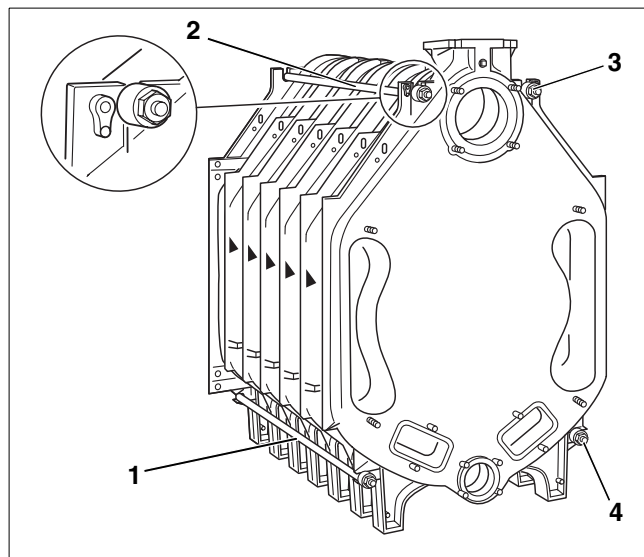

Fig. 19 Assembly – Fitting tie bars
- Fit the tie bars into the cast lugs to the right and left of the boiler's top and bottom nipple ports (Fig. 19, ref. 1 – 4) and insert the packs of springs on them.